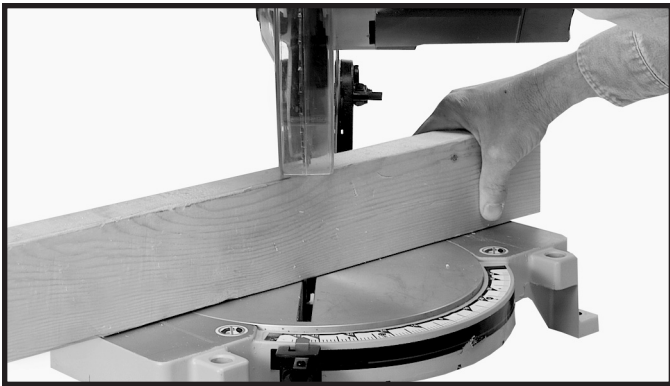

Fig. 33
1. standard 2 x 4's lying flat or on edge at 45° right and left miter angles (Figs. 33 and 34).